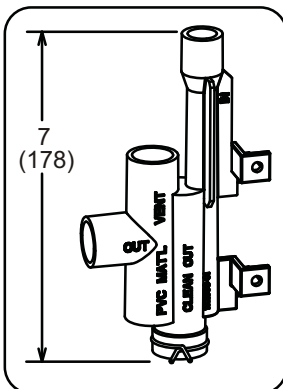

Figure 44. Trap / Drain Assembly Using 1/2" PVC or 3/4" PVC Cold End Header Box with 1/2 Drain Connection
3. Install the cap over the clean out opening at the base of the trap. Secure with clamp. See **Figure 43** and **Figure 44**.
4. Install drain trap using appropriate PVC fittings, glue all joints. Glue the provided drain trap as shown in **Figure 43** or **Figure 44**. Route the condensate line to an open drain.